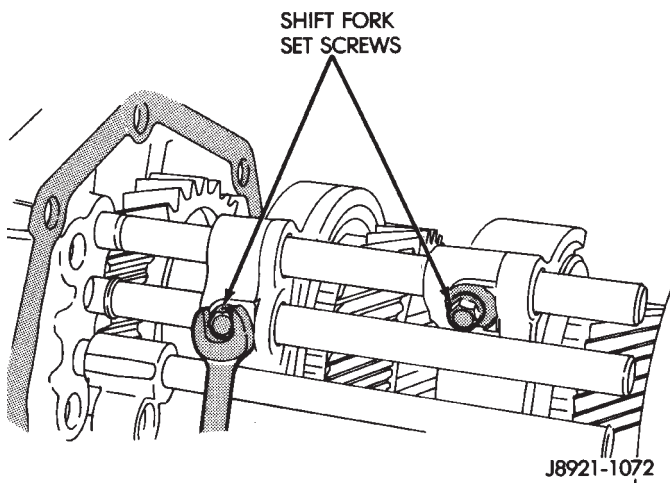

Fig. 43 Shift Fork Set Screw Removal
(3) Remove shift fork set screws (Fig. 43).